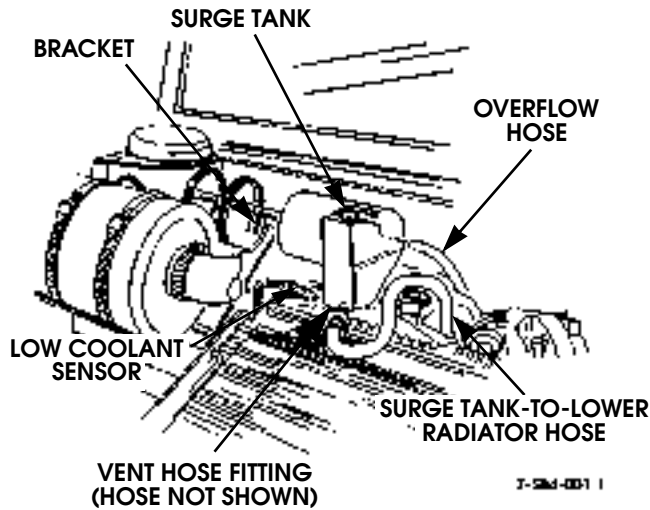

Figure 4-12: Surge Tank Replacement
2. Disconnect radiator vent hose from surge tank (Figure 4-12).
1. Secure surge tank to bracket with clamps (Figure 4-12).